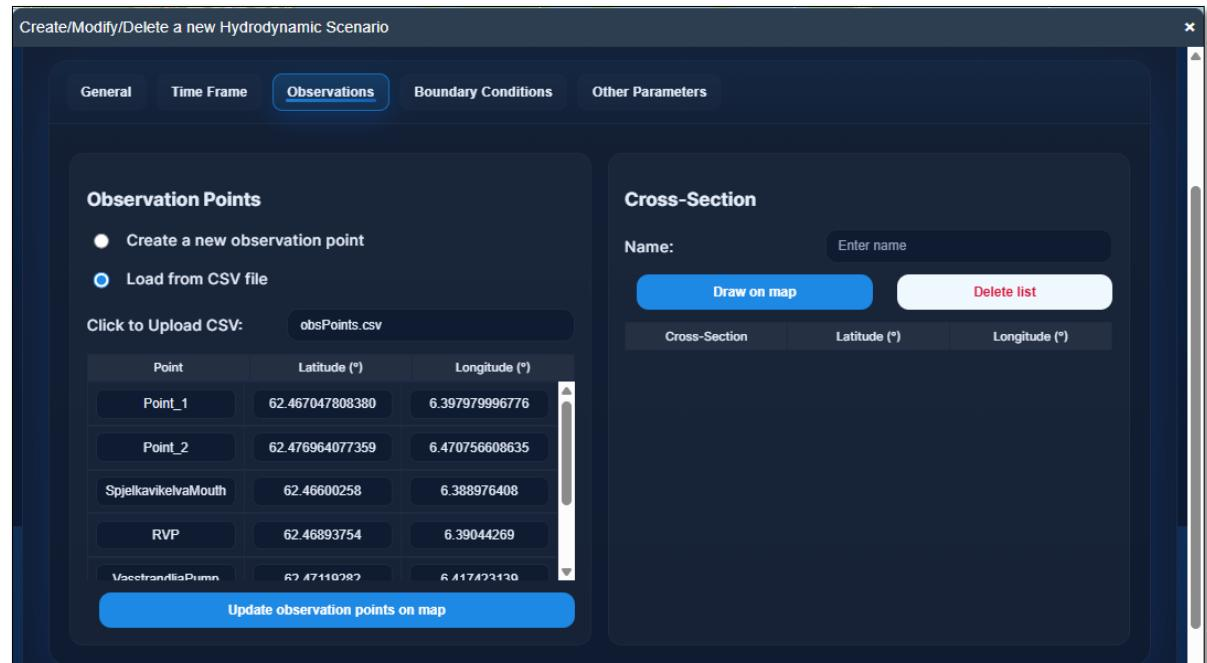

Figure 2.10. List of selected observation points
- *Step 2:* Click in the “**Click to Upload CSV**” text and then select a CSV file from the computer. A list of all observation points is listed in **Figure 2.10**.